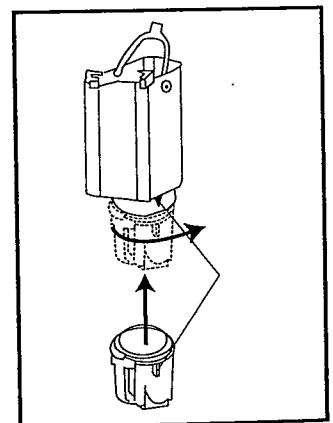

Figure 4
7. Align tab on side of Charcoal Filter Holder with arrow on side of Charcoal Filter Water Chamber. Push Filter Holder up and turn Filter Holder clockwise to lock into place. See Figure 4.